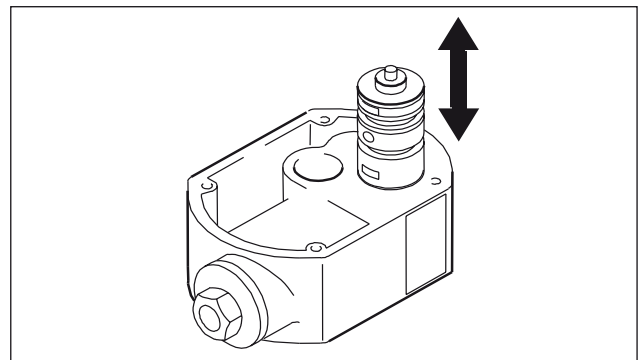

Fig. 17: Assembly of internal control valve
- The air control valve is replaced as a complete unit (Fig. 17).